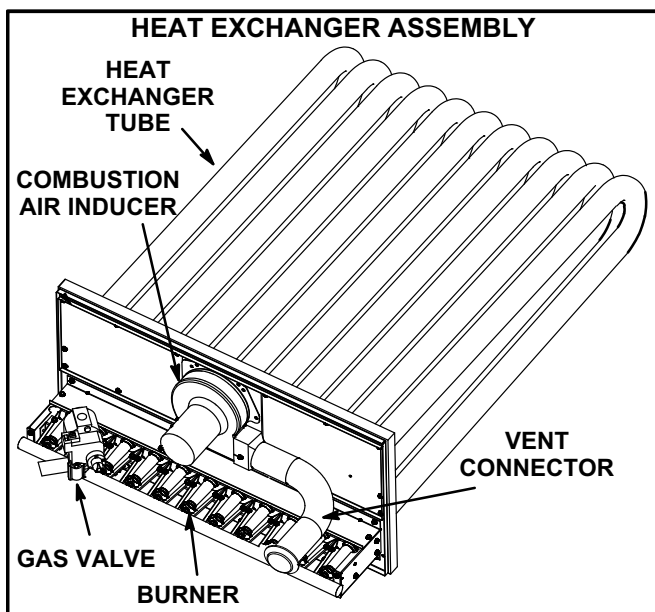

FIGURE 37
- 3- Remove and retain screws securing combustion air inducer to flue box. Remove vent connector. See figure 37.